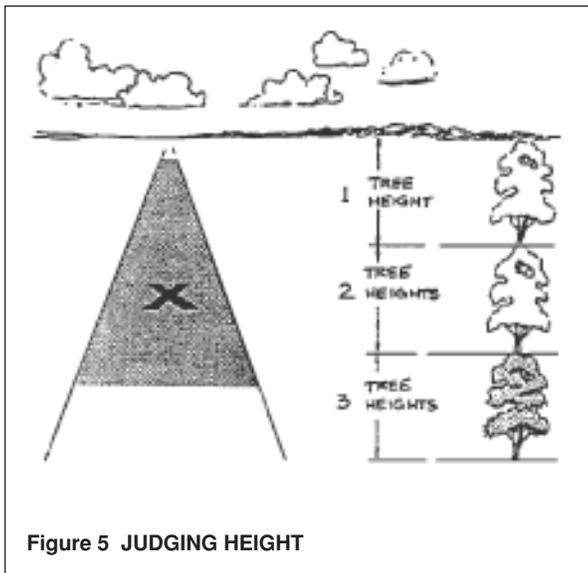

Figure 5 JUDGING HEIGHT
**Height and Distance Method** The first technique for teaching circuit planning or judgement is the height and distance method. This is to choose a point back from the landing area (or touchdown point) at which to place the final turn. This will normally be 300–400 metres behind the touchdown point, closer in strong winds. Refer to Figure 4 which shows the pilot aiming to start the downwind leg at about 800 feet, and to be opposite the aiming point at 500–600 feet, as explained before. He then tries to imagine his final turn point, visualizing both its position and height behind the runway. On the base leg the procedure is to use up extra height by using the airbrakes so that at the final turn there is no excess height. Height is judged quite simply by reference to buildings or trees — see Figure 5. In light winds the final turn position can be judged very well. However, in stronger winds it will be necessary to bring the final turn closer to the field and to fly faster to increase the distance that the glider will fly against the wind, and to prevent the effects of the wind gradient from "grabbing" you and causing an under-shoot.